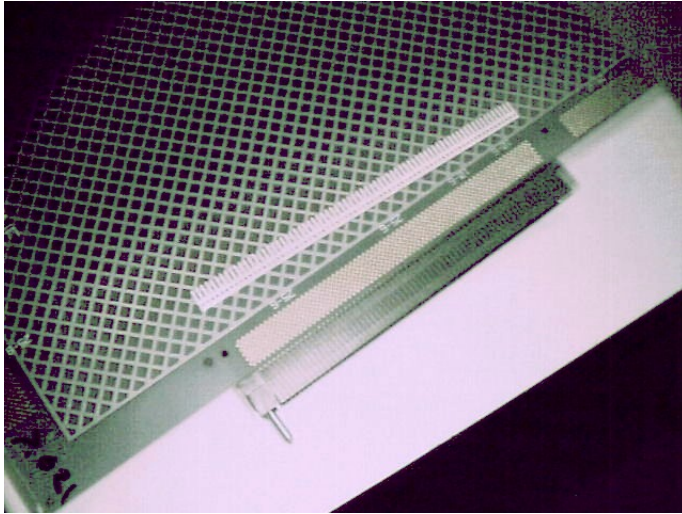

Figure 8
Step 3. Remove the secondary stiffener and set it aside (see Figure 8).